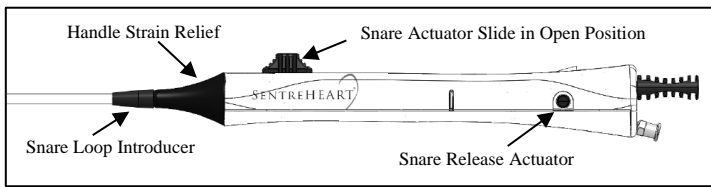

Figure 3 Opening the Delivery Snare
9. If using the SofTIP or Trocar, advance the Snare Loop Introducer from the handle towards the tip until it covers the closed Delivery Snare. Introduce the LARIAT RS into the SofTIP or Trocar. Pull back the Snare Loop Introducer until it locks to the Handle Strain Relief as shown in Figure 3.
10. To open the Delivery Snare, advance the Snare Actuator Slide until it stops and Delivery Snare is fully open as represented by the "O" (oval) symbol as shown in Figure 3.